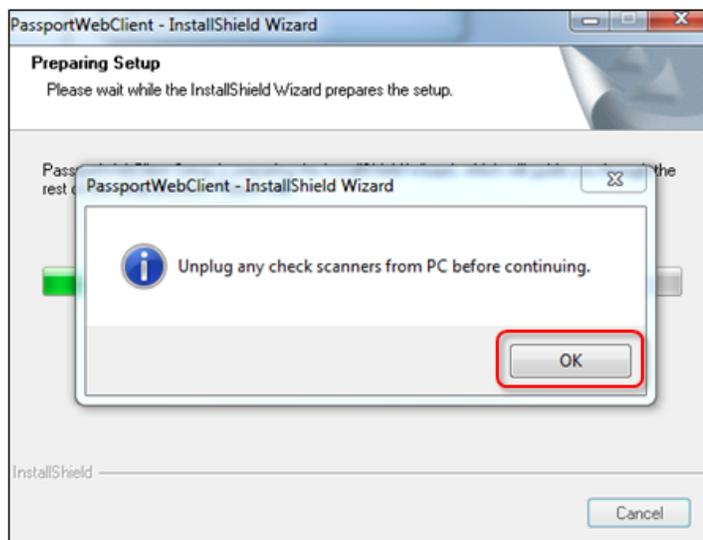

Figure 14: Disconnecting the Scanner
4. Ensure that the scanner is disconnected from the workstation when prompted and then click **OK**. See Figure 14.